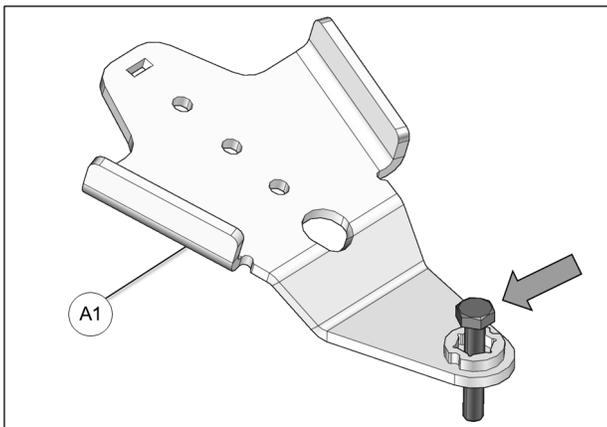

Fig. 17
4. Insert bolt in rear anchor bracket (A1) as shown in Fig. 17